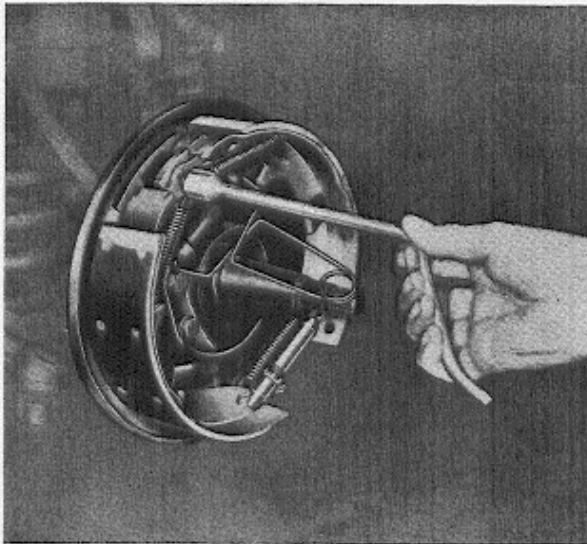
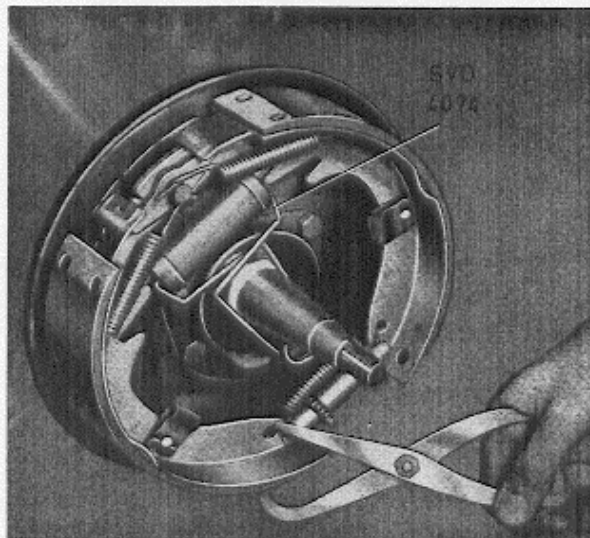
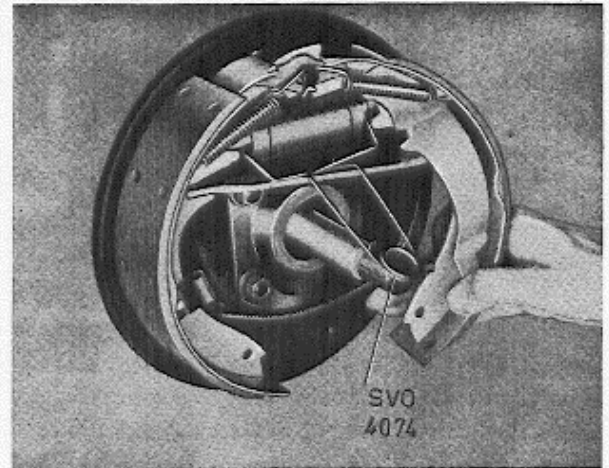

Fig. 11. Removing the return spring with brake spring tool (Snap-on BT 11 or corresponding)
Fig. 12. Removing the locking spring
Fig. 13. Removing the brake shoe
3. Place the clamp SVO 4074 as shown in Fig. 12 so that the plungers in the wheel unit cylinder cannot be pressed out. How the brake shoes are removed will depend upon the tool used. With a brake spring tool, see Fig. 11, disconnect first the two return springs, then remove the locking clips and lift the shoes forward together with the adjusting device.
Disconnect the locking spring with the help of the brake spring pliers as shown in Fig. 12. Pull the shoes apart and remove the adjusting device. Hold against the guide pin on the rear side of the brake backing plate and remove the locking clip. Turn the shoe outwards until the thrust rod from the wheel unit cylinder is released, see Fig. 13. Then turn the shoe inwards until the return spring can be released and the shoe lifted off. Remove the other shoe in the same way.
- Place the clamp SVO 4074 over the wheel unit cylinder so that the plungers cannot be pressed out. Disconnect the handbrake cable from the lever. How the brake shoes are removed will depend upon the tool used. With a brake spring tool, see Fig. 11, disconnect first the two return springs, then remove the locking clips and lift the shoes forward together with the adjusting device.
With the help of brake spring pliers unhook the locking spring, see Fig. 12. Pull the shoes apart and remove the adjusting device. Hold against the guide pin on the rear side of the
brake backing plate and remove the locking clip for the rear shoe. Turn the shoe outwards until the thrust rod from the wheel unit cylinder and the handbrake link are released, see Fig. 13. Then turn the shoe inwards until the return spring can be disconnected and the shoe lifted off. Remove the other shoe in the same way.